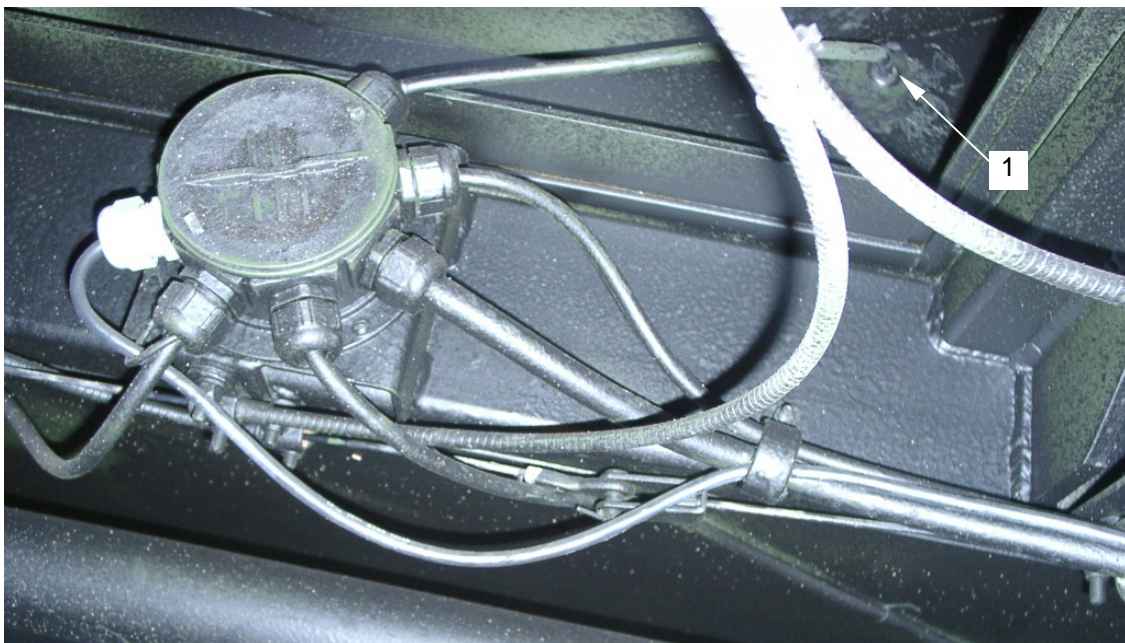

Figure 14. Wire Clamp
21. Install new wire in wire clamps (figure 14, item 1).